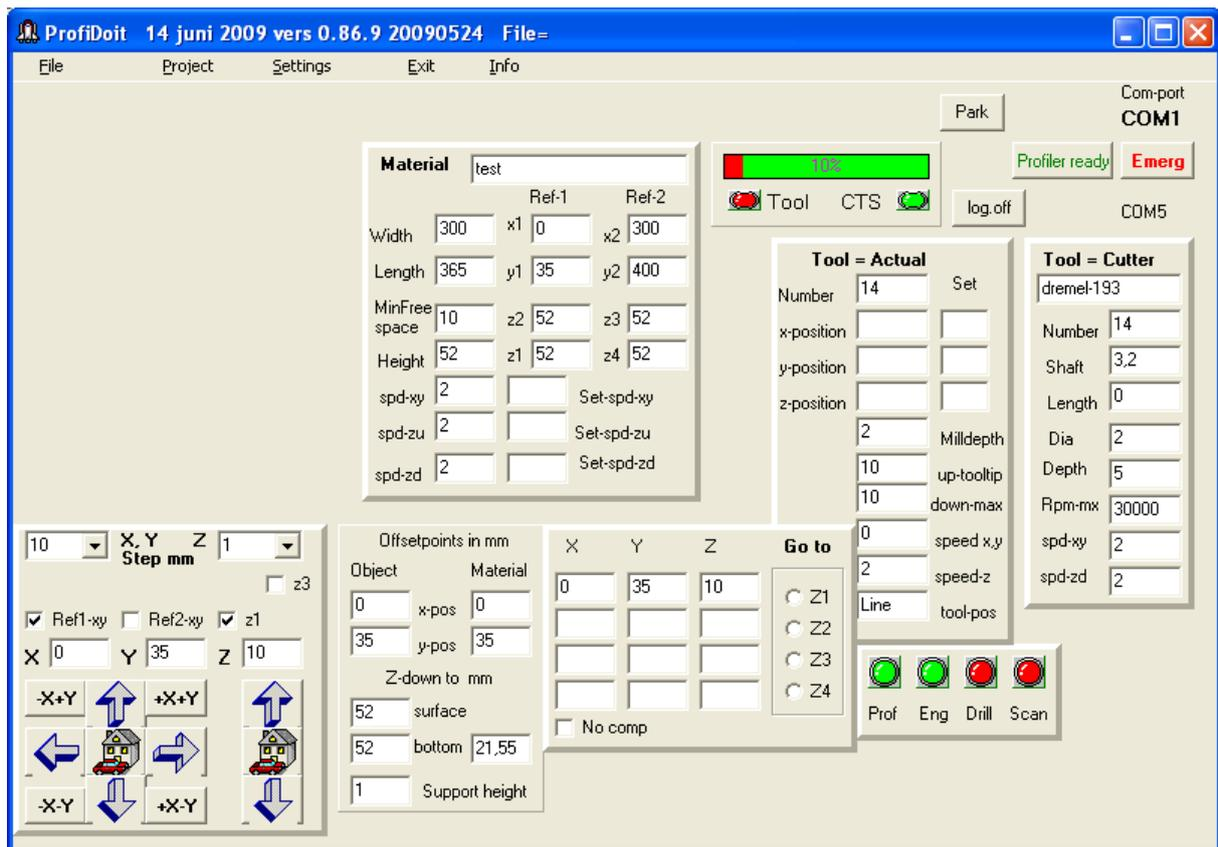

Fig.3.1.4 Profiler communication ready and actual tool settings. (f4-090614)
- 6. Fig. 3.1.4 Profiler communication ready and tool actual.
If the port is opened the program tries to make contact with the Profiler and the result is visible at the button "No Profiler" changing to “Profiler ready”(fig.3.1.4).